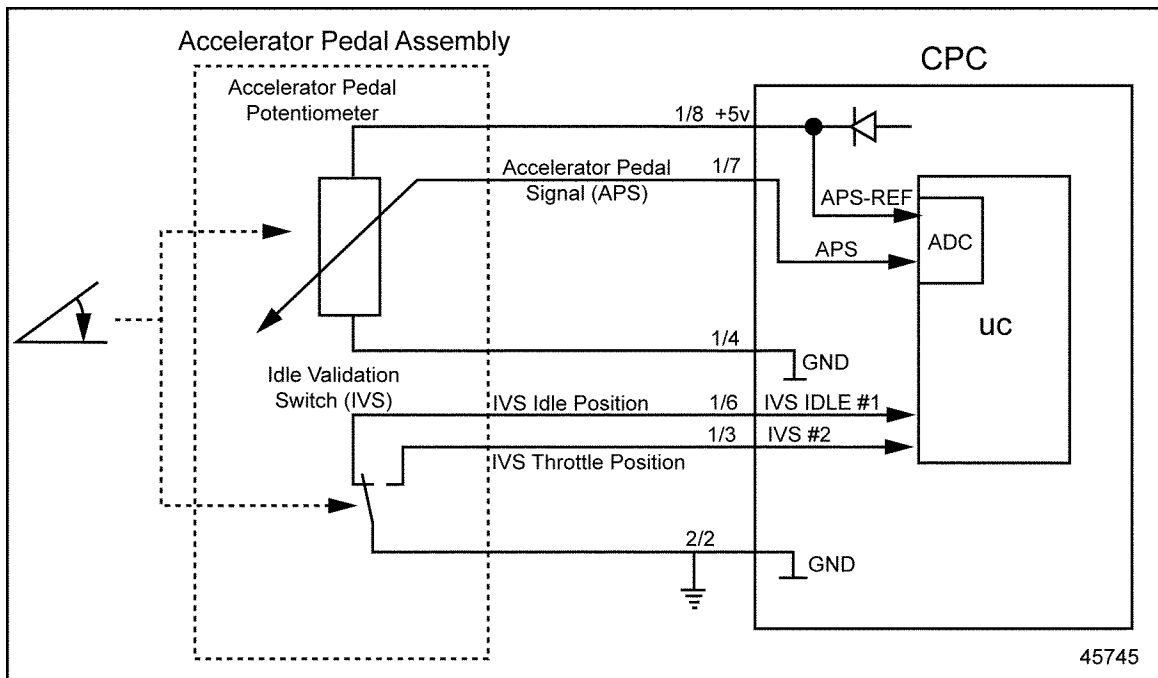

Figure 108-1 Accelerator Pedal Assembly Installation
1. Disconnect the Accelerator Pedal (AP).
3. Measure the voltage between pins 1 and 3 of the AP harness connector. See Figure 108-1.